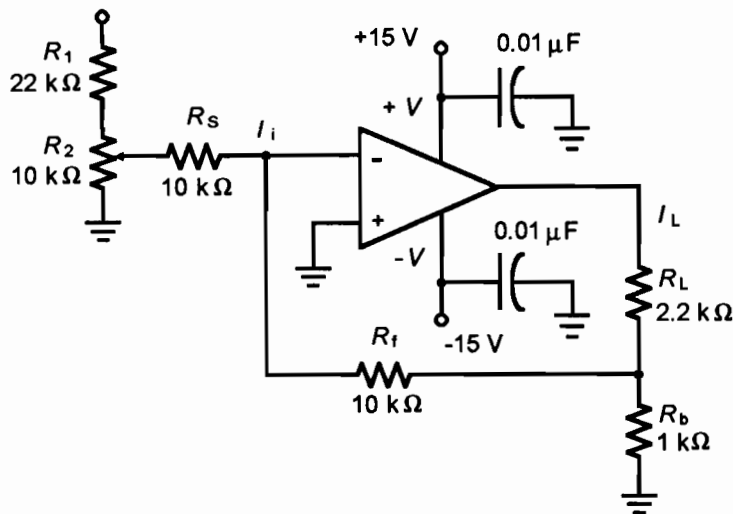

Figure 47.1
1. Construct the circuit of Figure 47.1. Connect an ammeter in the circuit between  $R_s$  and the junction of  $R_f$ . Connect a second ammeter between the op-amp output and  $R_L$ . Network  $R_1$ ,  $R_2$ , and  $R_s$  provides the current source for your circuit.